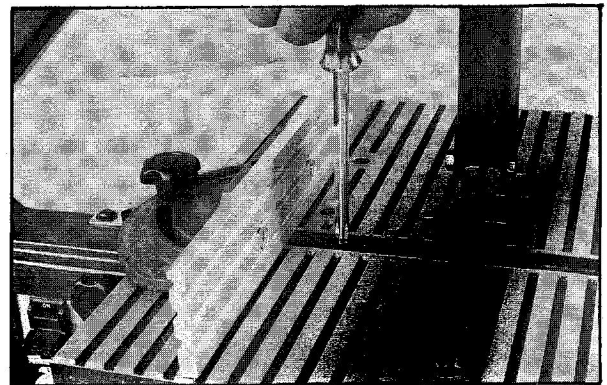
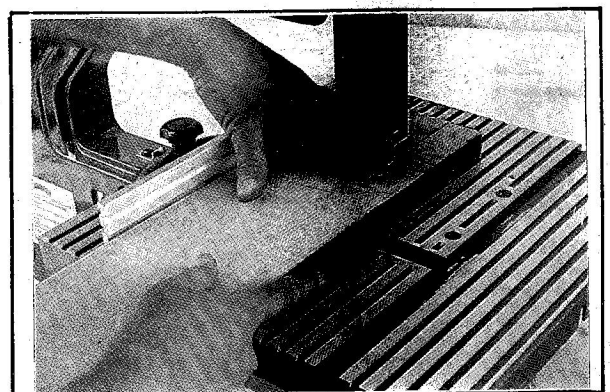

FIGURE 21
FIGURE 22
2. This operation may be performed either by setting the miter gauge for ripping as shown in Figure 21 or by sawing to a line. To obtain straight rip cuts use the rip fence and saw slowly using light pressure. If you don't push too hard, the tension in the blade will cause it to stay in position and give you a straight cut. See Figure 22.